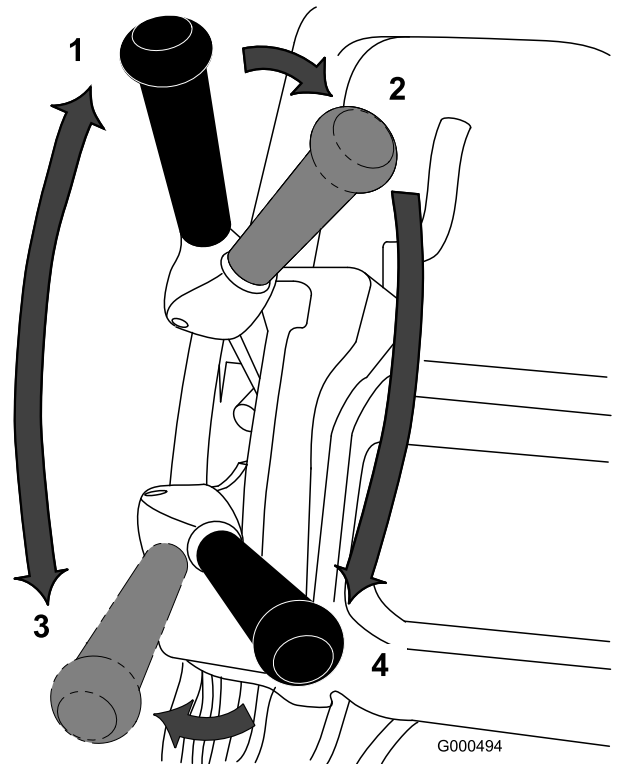

Figure 35
2. Ensure that the traction and reel drive lever is in the NEUTRAL position; refer to Figure 35.
1. Start the machine, set the speed control to the ZERO position, push down on the handle to raise the cutting unit, press the operator-presence control, move the traction lever to the FORWARD position (Figure 35), and gradually increase the speed control setting to transport the machine onto the collar of the green.
3. Move the traction lever to the NEUTRAL position, then move the lever to the left and forward to the traction—FORWARD and reel drive—ENGAGED position (Figure 35).